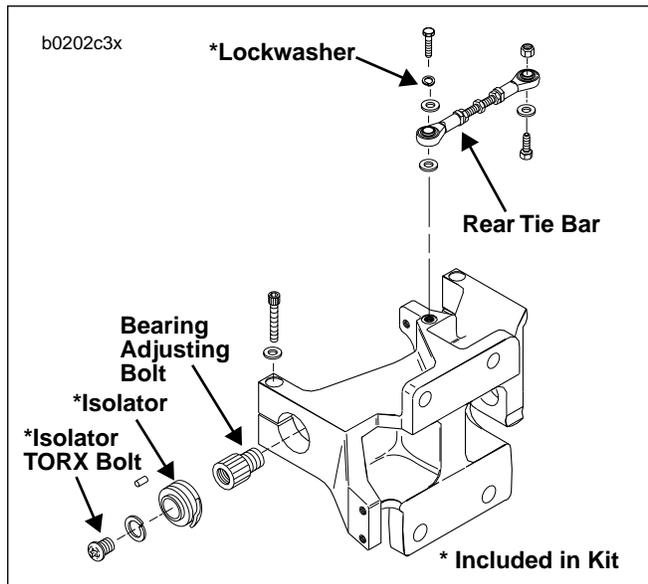

Figure 3. Mount Block
9. See Figure 3. Remove rear tie bar bolt, lockwasher and washers from mount block. Discard lockwasher.
10. See Figure 3. Loosen left side isolator bolt from swing arm bearing adjusting bolt. Do not remove.
11. See Figure 3. Remove right side isolator bolt and washer from swingarm bearing adjustment bolt. Discard isolator bolt, but retain washer.
2. See Figure 3. On left side of motorcycle, align locator hole with roll pin and install **new** left rear isolator provided in kit. The left isolator backing plate has an "L" stamped on it.
6. See Figure 3. On right side of motorcycle, align locator hole with roll pin and install **new** right rear isolator provided in kit. The right isolator backing plate has an "R" stamped on it.
11. See Figure 3. Install **new** isolator TORX bolts and washers through both rubber isolators into bearing adjustment bolts on each side.
6. See Figure 3 (Typical). Remove rear tie bar bolt, lockwasher and washers from mount block. Discard lockwasher.
7. See Figure 3. Loosen left and right isolator bolts. Do not remove.
4. See Figure 3. On left side of motorcycle, align locator hole with roll pin and install **new** rear isolator provided in kit.
5. See Figure 3. Loosely install **new** isolator TORX bolt and washer through rubber isolator into bearing adjusting bolt. Do not tighten.
18. See Figures 3 and 8. Install front lower and center tie bars to frame with original locknuts. Tighten bolts to 30-33 ft-lbs (41-45 Nm). Install rear tie bar to mount block with **new** lockwasher. Tighten bolt to 30-33 ft-lbs. (41-45 Nm).